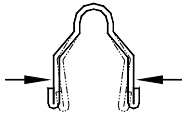

Figure 28:
1. Using a pair of pliers, slightly squeeze one end of the track to create a tapered edge (Figure 28).